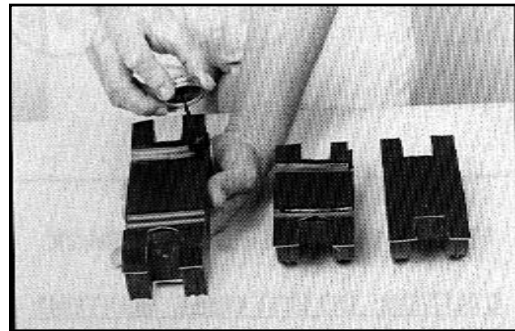

FIGURE 17 - BRUSH C-CEMENT OVER LOCK-TAPE SEALANT
8.02 Before installing prepared cables into End Plate halves, apply 1/4" (6.35 mm) wide bead of C-Cement adjacent to the drilled hole. (Figure 17)